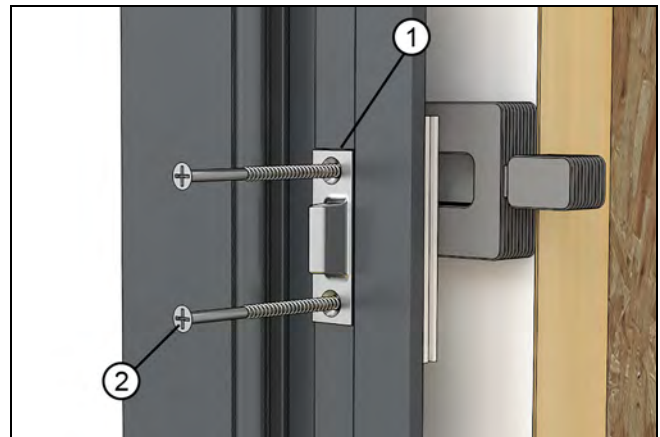

Figure 207
24. Fasten strikes, panel alignment bolts, hinges, and stationary brackets to the rough opening. Shim at all fastener locations between the frame and the rough opening. See Figure 205, Figure 206 and Figure 207.